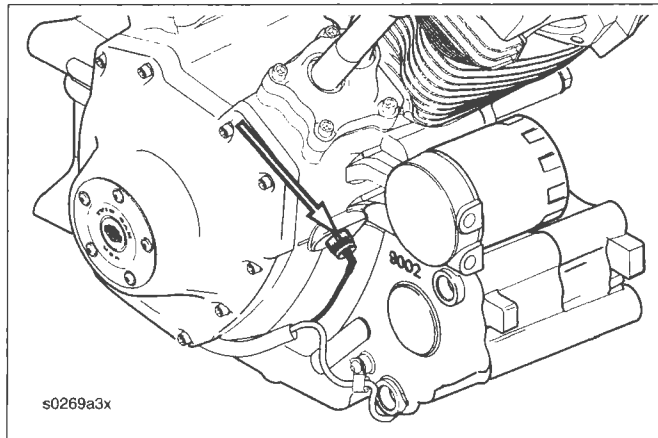

Figure 3-13. Oil Pressure Switch
2. See Figure 3-13. Remove oil pressure switch from crankcase. See 8.33 OIL PRESSURE SWITCH.